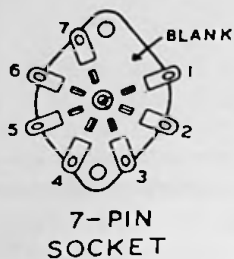

Figure 1
- () Mount the two 7-pin and one 9-pin wafer type tube sockets on the chassis with 3-48 screws and nuts. See Figures 1 and 2 for identification. Note the position of the blank spaces in Pictorial 1 on Page 6. Observe that the sockets mount below the chassis.